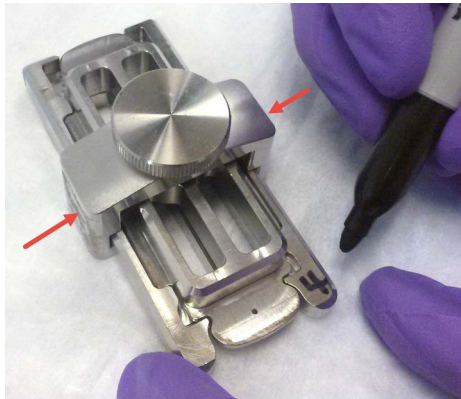

Figure 5 Labeling of chamber bases
- 4 To better track samples, mark your chamber bases and both sides of the clamps (see arrows in Figure 5) with a black waterproof marking pen. Marking the sides of the clamps will allow you to see the mark while the chamber assemblies are in the hybridization oven.